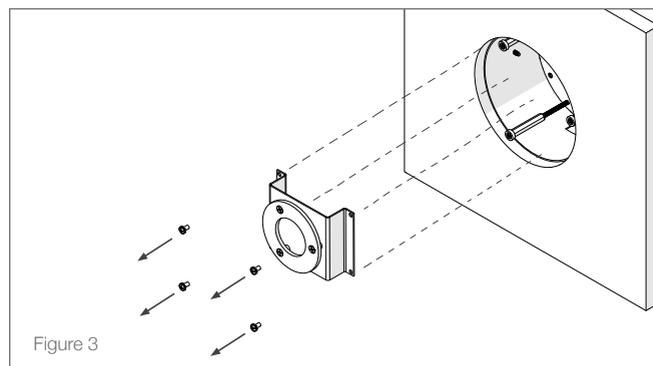

Figure 3
1. Using a Phillips #2 screwdriver, remove the 4 screws holding the mounting bracket plate inside the back box. A magnetic tip screwdriver is recommended (see Figure 3).
2. Ensure that the alignment tool fits into the opening of the solid surface material where the device will be installed. There are four contact points on the perimeter of the alignment tool that should fit within the surface opening. If needed, lightly sand the four contact points that contact the opening's inner surface (see Figure 3).